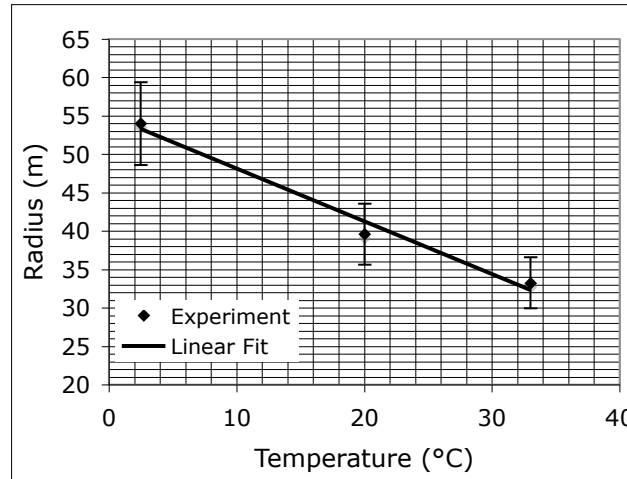

Figure 3.2: Example of an acceptable plot: Maximum expansion radius vs. temperature for a single bubble sonoluminescence experiment at 23.1 kHz.
3. Plot your sample means for each of the straw lengths you measured on a linear graph of buckling weight ( $y$ -axis) versus straw length ( $x$ -axis). This plot should be either drawn by hand to appropriate scale (graph paper is available on the course website) or using computer software (such as Excel or Matlab). Be sure to include appropriate axis labels, a legend, a figure number, and a descriptive caption. Furthermore, be sure to minimize the data range for the weights and lengths. In other words, do not draw a vertical axis spanning 200 N if all of the averages for your weight fall within a 20 N range. The smaller the range, the more accurate your fits for the graph will be. Fig. 3.2 shows an example of an acceptable plot, albeit from a completely different application.
4. Draw vertical error bars symmetrically about each data point. The error bar should extend above and below the data point by an amount equal to twice the sample standard deviation for that data point. (Recall that you calculated this above as  $\sigma_j$ .) This range corresponds to 95% of randomly distributed data falling within the limits defined by the error bars (known as 95% confidence intervals). You can see such error bars on the example plot in Fig. 3.2.